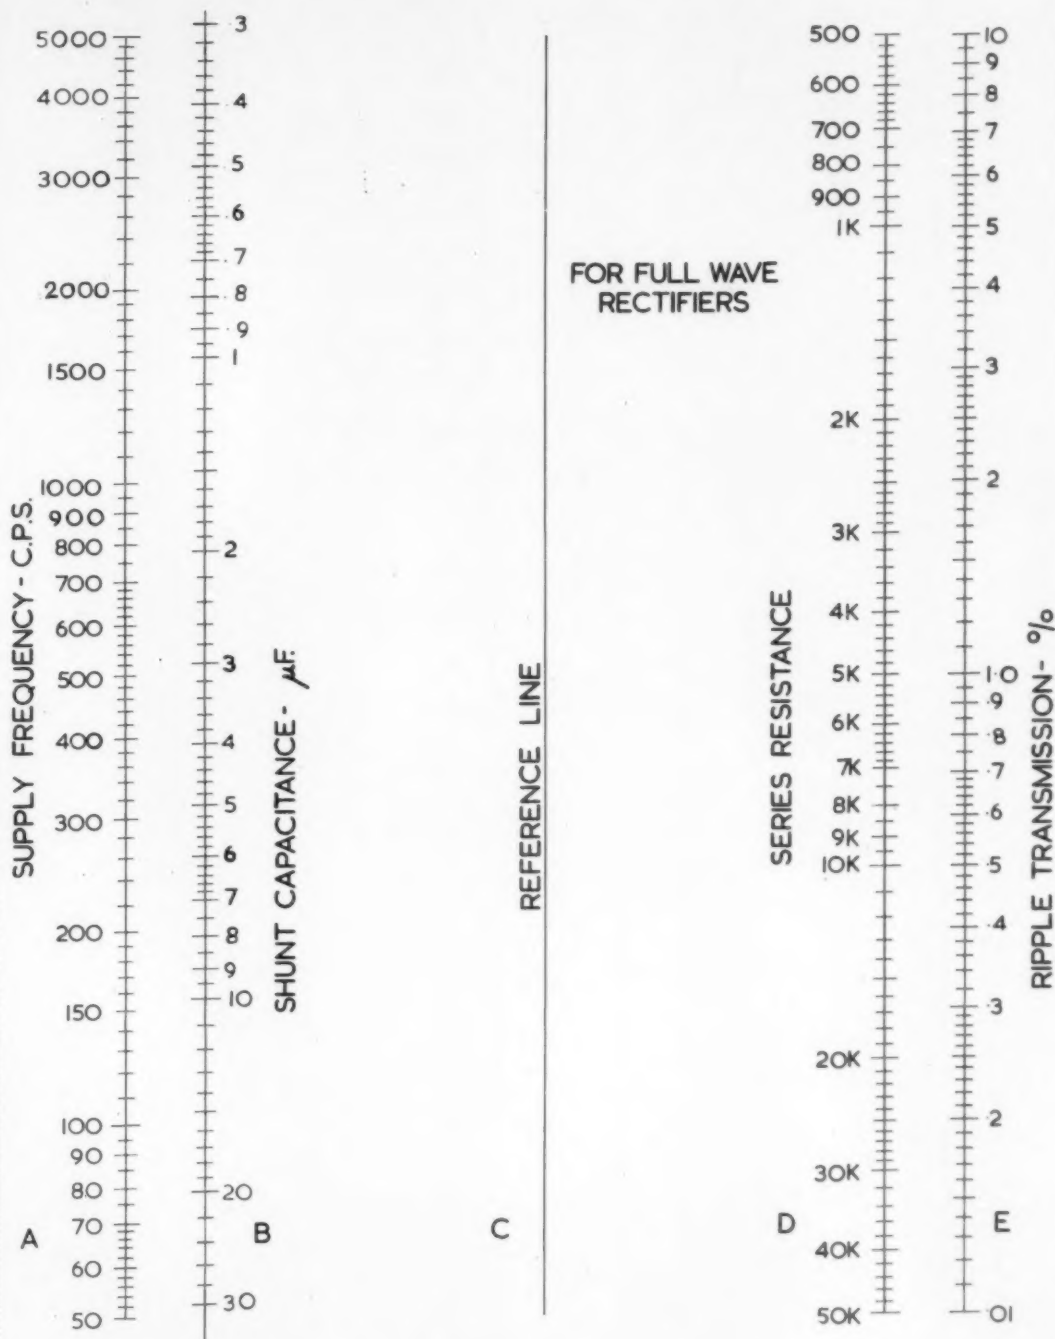

Fig. 1. RC filter sections
The nomogram of fig. 1 solves the above equation directly, and if the factor " $\sqrt{2}$ " is introduced the chart is also applicable to equation (1).
- (2) Choose a ripple transmission value for the first capacitor in the range 5-10%. Low values involve high peak currents which may damage the rectifiers; this must be checked subsequently. For the example a value of 10% is taken.
- (3) Divide 10% by $\sqrt{2}$ and enter the result, 7.07% on scale *E* of fig. 1. Using a straight-edge join this point to 400 cps on scale *A* and note an intersection on the central reference line *C*.
- (4) Re-position the straight-edge to align with the intersection on scale *C* and 1200 ohms on scale *D*. The required capacitor value is read from scale *B* where the straight-edge projects and is found to be 2.3 mfd. A nominal value of 2.5 mfd may be selected. To give the required overall ripple transmission of 1/4%, a second *LC* section is added which must have a transmission of 2 1/2% or less. To give a design margin, 2% is chosen.
- (5) Turn to the second nomogram and set a straight-edge to join 2% on scale *G* with 400 cps on scale *A* and note an intersection with the reference line *B*. Pivoting from this point, the straight-edge can be positioned to cover a wide range of *LC* values given by intersections of the straight-edge with scales *C* and *E*. If a value of 2 mfd is chosen, the associated inductance, read from scale *E* is 1 henry.